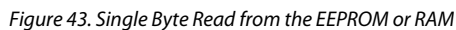

Figure 43. Single Byte Read from the EEPROM or RAM
- In the ADM1063, the receive byte protocol is used to read a single byte of data from a RAM or EEPROM location whose address has previously been set by a send byte or write byte/word operation, as shown in Figure 43.